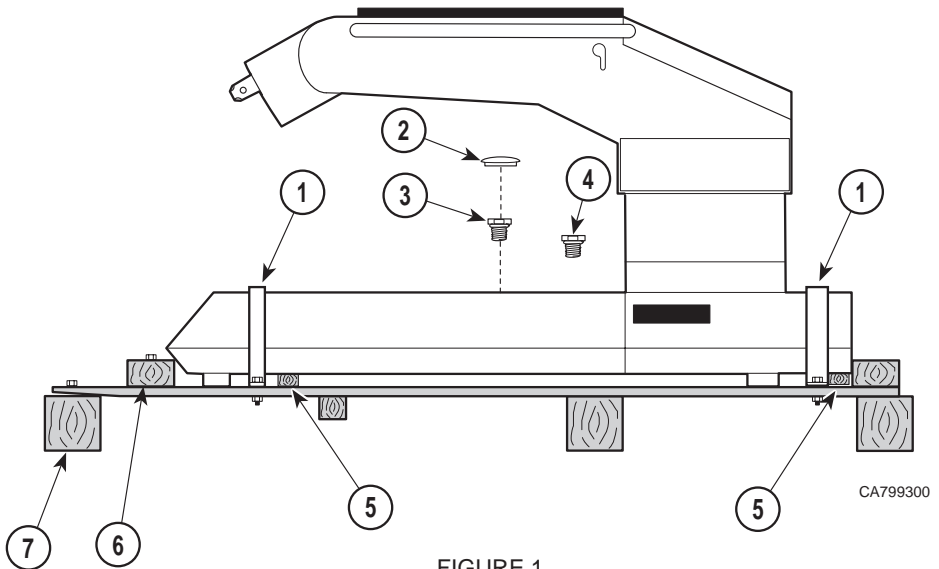

FIGURE 1
8. Remove the two wood slats (5, Figure 1) from beneath the table base.
9. Unbolt and remove the wood block (6) at the foot end base of the table.
10. Unbolt and remove the wood block (7) located at the foot end base beneath the wood skid.